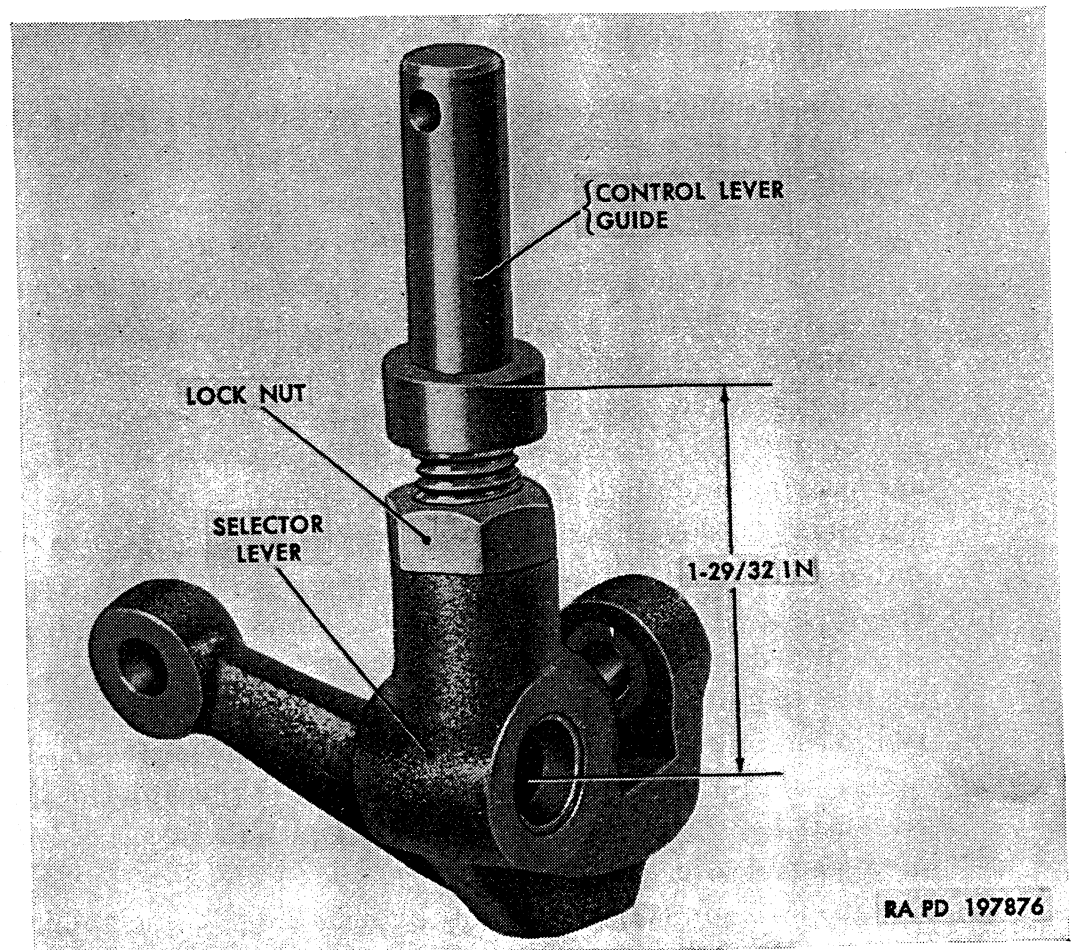

Figure 205. Adjusting guide and selector lever.
- (4) Install  $\frac{1}{2}$ -20 locknut (K) on gearshift hand control lever guide (J); then thread guide into selector lever (AH) to  $1\frac{29}{32}$ -inch dimension shown in figure 205, measured from gearshift hand control lever guide spring (H) seat on gear shift hand control lever guide (J) to centerline of bearing hole in selector lever. Tighten locknut against selector lever.
- (5) If bearing (U) was removed from selector lever (AH), tap new bearing into place, using plastic hammer.
- (6) Position gearshift hand control lever guide spring (H) over end of gearshift hand control lever guide (J).
- (7) Install gearshift hand control lever guide spring (H) and guide (J) into end of gearshift hand control lever (F), aligning hole in guide with slot in lever.